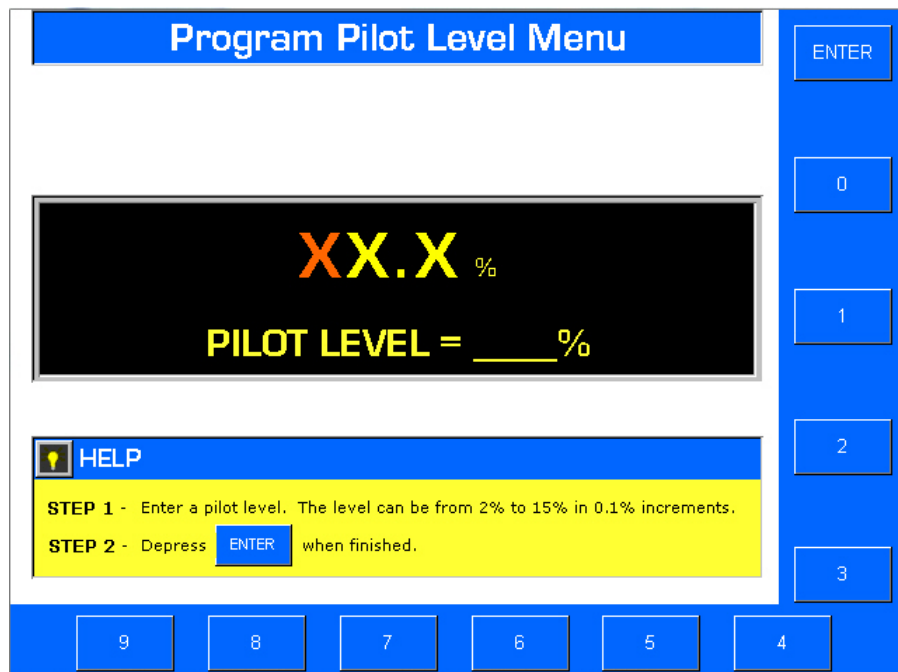

Figure 3-10. PROGRAM PILOT LEVEL MENU.
- A. Depress PILOT LEVEL. The Pilot Level Menu will appear (refer to Figure 3-10).